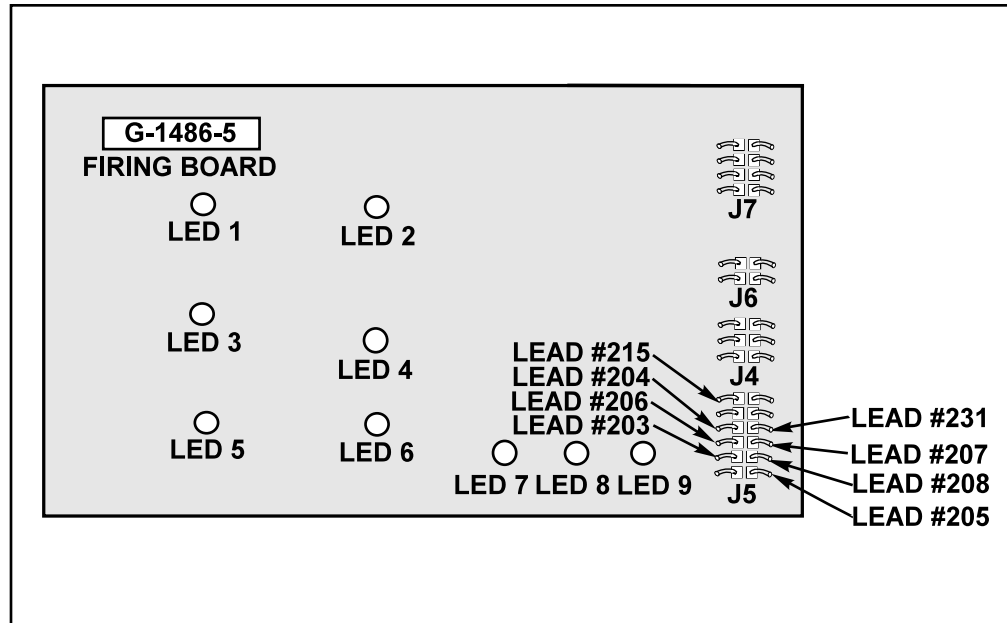

FIGURE F.6 - Firing Board LED and Molex Plug Locations
5. Locate LEDs 7, 8, and 9 on the Firing Board. See Figure F.6. Each LED should be ON and equally bright. Use Table F.1 to check LED operation.